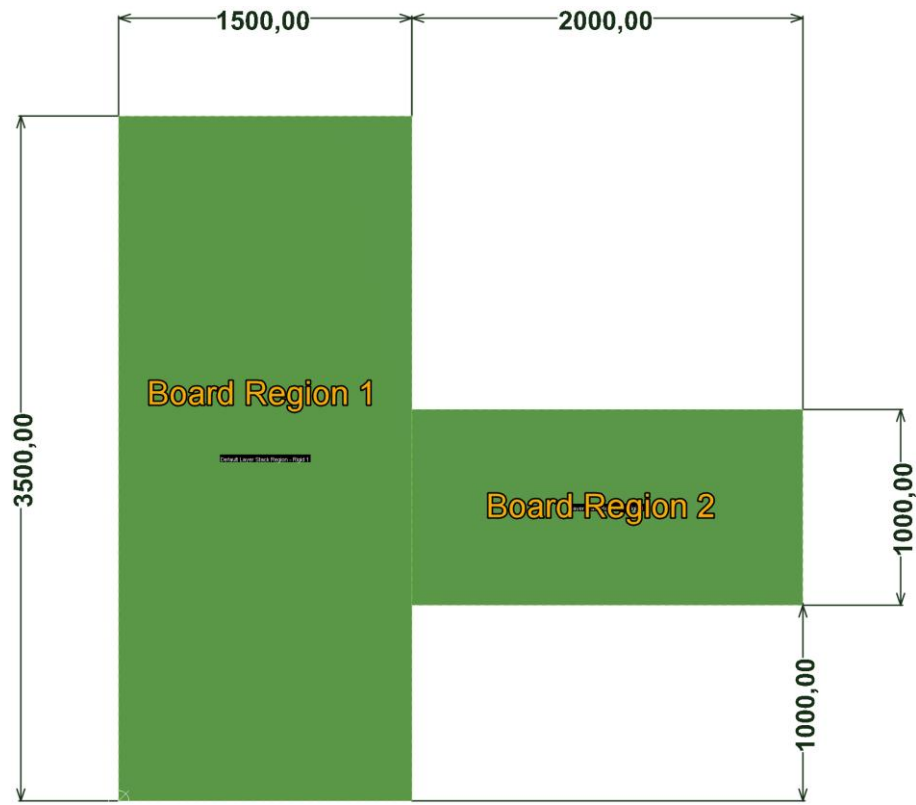

Figure 3. Defining the second Board Region
16. Use the command **Place » Board Region** to create a second board region with the dimension 2000mil x 1000mils, as seen in Figure 3. If needed, change the Corner Mode with **Shift+Spacebar** to 90° corner.